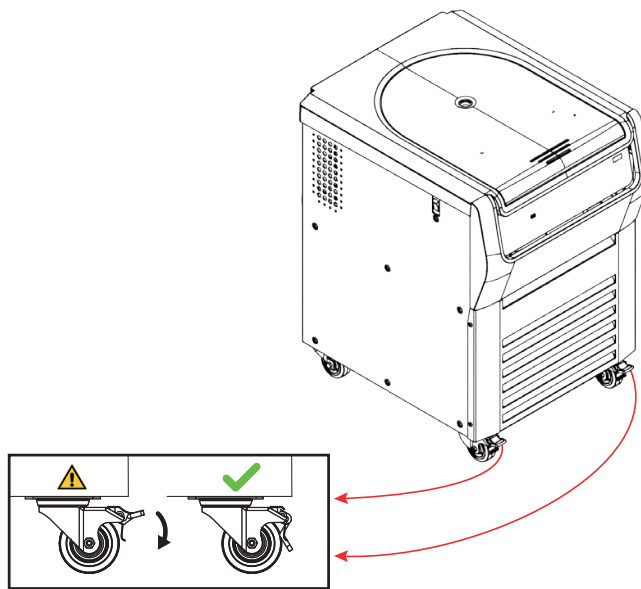

Figure 1–9: Locking the Centrifuge Castors
17. Unlock the swiveling castors on the front side of the centrifuge by flipping up their locking levers, as shown in the rectangular box at the bottom center of Figure 1–7.
21. To lock the castors, step on the lever that sticks out from underneath the front side of the centrifuge, as shown in Figure 1–9.